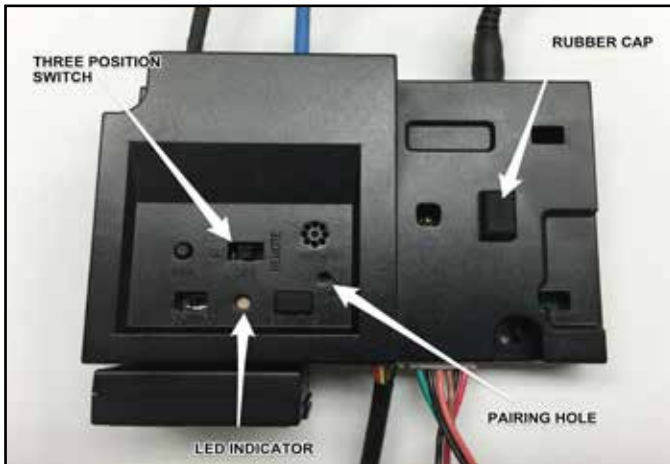

Figure 4.7. IFT-ECM
5. Locate the IntelliFire Touch electronic control module (IFT-ECM) in the control cavity of the appliance and move the three-position switch to the OFF position. See Figure 4.7.
6. Remove protective rubber cap from connector on the top of the IFT-ECM. See Figure 4.7.